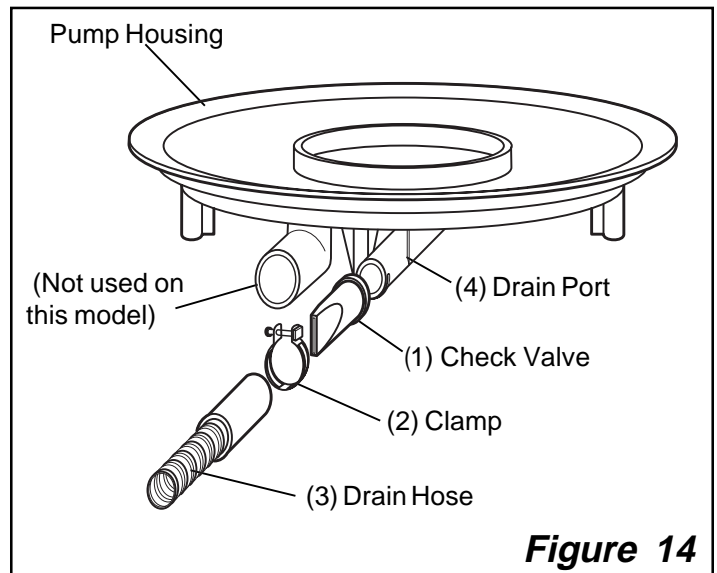

Figure 14
1. Push the Check Valve (1) onto the Pump Housing Drain Port (4) making sure the letters "TOP" are showing on top. This position locates the valve such that the slit end is perpendicular to the floor (see *Figures 14 & 15*).